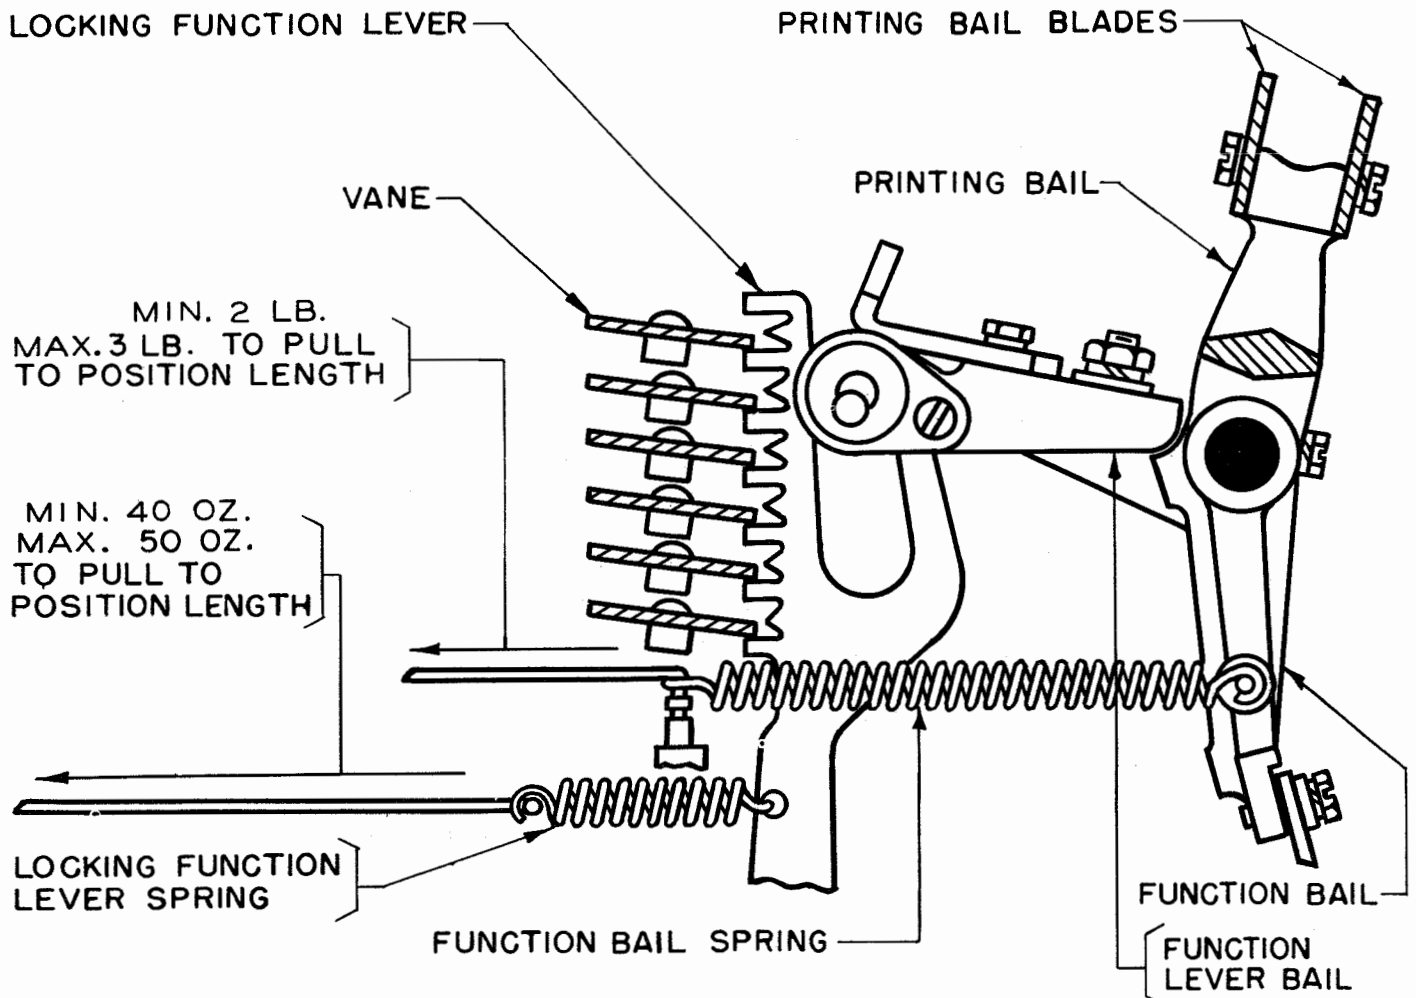

Figure 28
2.48 Function-bail Spring should have a tension of minimum 2 pounds, maximum 3 pounds when the bail is in its extreme rear position. See Figure 28.